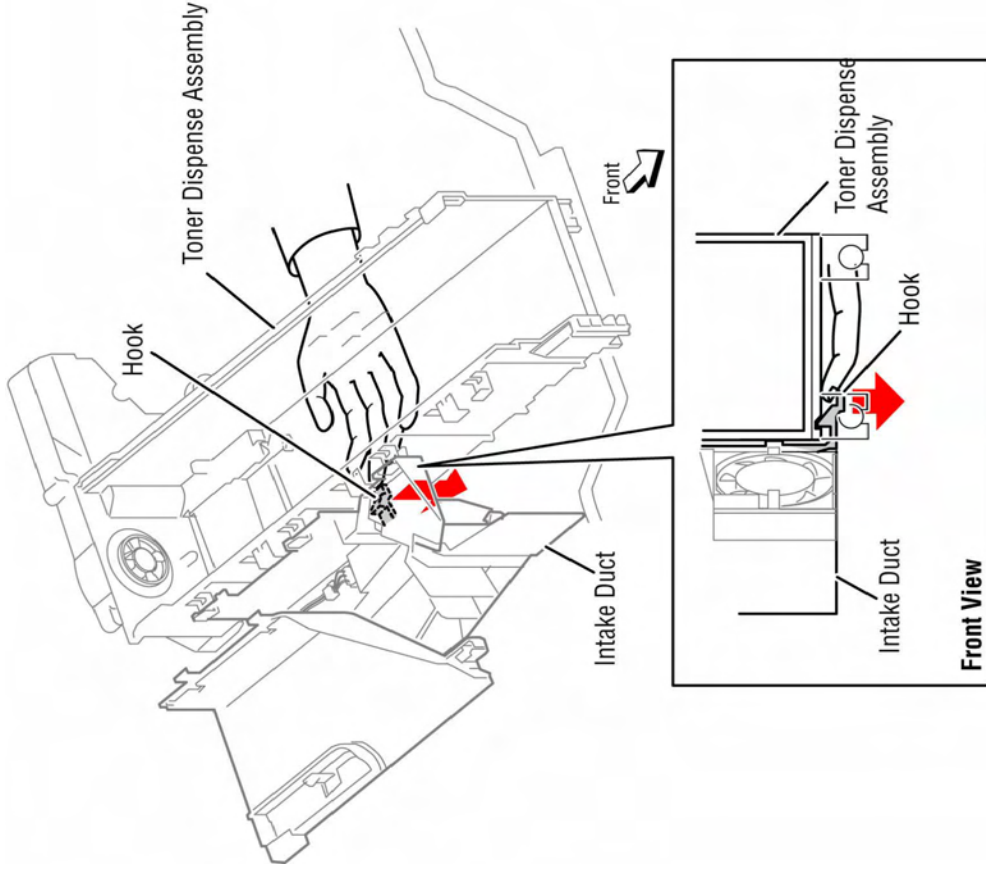

Figure 2 Removing the Intake Duct
3. Release the hook holding the Intake Duct to the Toner Dispense Assembly (Figure 2).